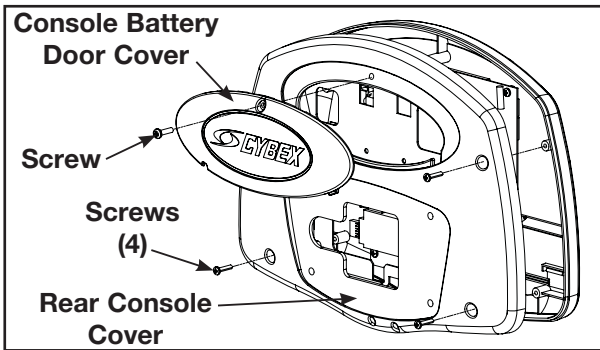

Figure 9
- A. Using a Phillips screwdriver, remove the one screw securing the console battery door cover, then remove the four screws securing the rear console cover to the front console cover. See Figure 9.
- A. Using a Phillips screwdriver, reattach the four screws securing the rear console cover to the front console cover. Reattach the one screw securing the console battery door cover. See Figure 9.